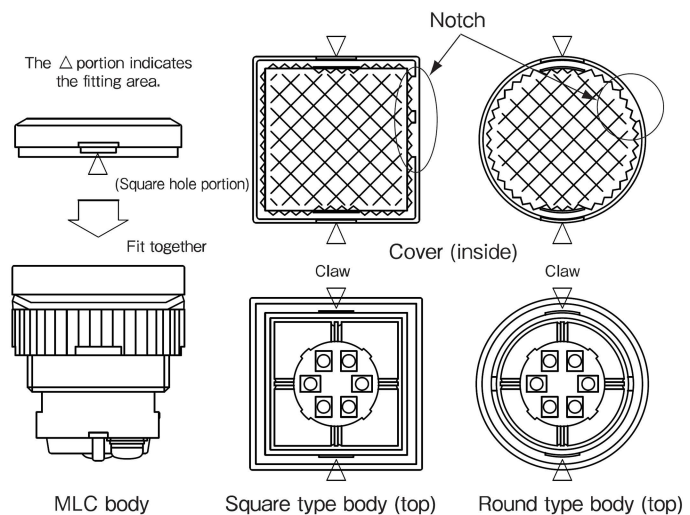

Figure 1: Installing the Diamond Cut Cover
- 1) To exchange the diamond cut cover, fit the \triangle portions (square hole and claw portions) as illustrated in Figure 1.